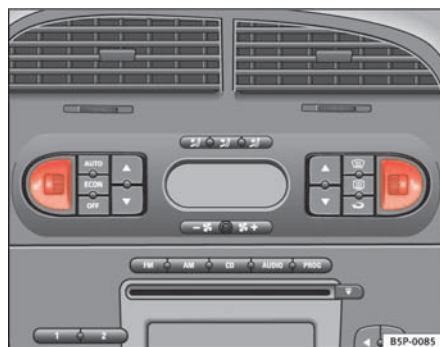

Fig. 95 Thumb wheel for the front seat heating
- Turn the appropriate thumb wheel ⇒ fig. 95 to switch on the seat heating. The seat heating is switched off in the 0 position.